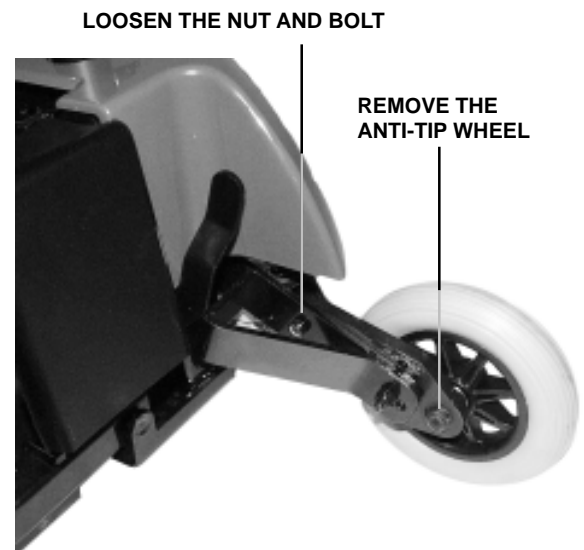

Figure 10. Anti-Tip Wheel Adjustment
2. Use a hex key and a socket to loosen the nut and bolt that fasten the anti-tip spring to the anti-tip arm. See figure 10.